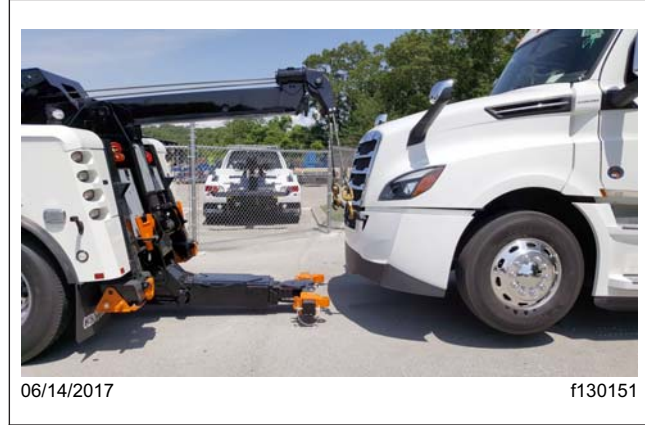

Fig. 6, Moving the Stinger and Crossbar Under the Bumper
6. Lift the front of the truck until there is enough clearance for the stinger and crossbar to pass under the bumper. See Fig. 6.